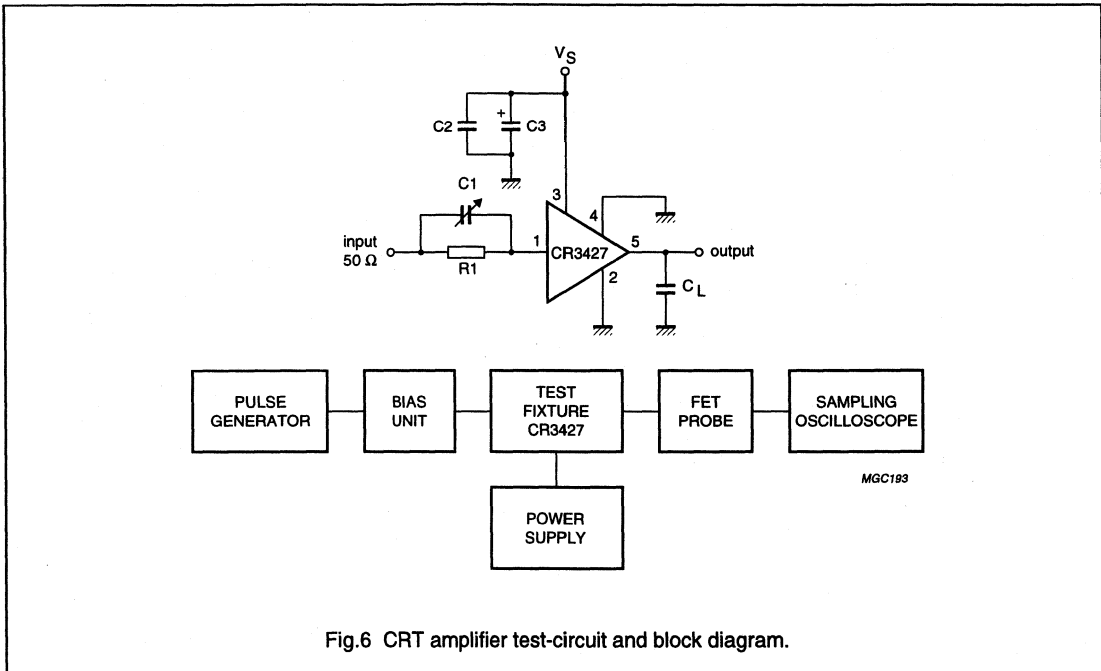

Fig.6 CRT amplifier test-circuit and block diagram.
3. Measured V_O/V_I (Fig.2) at input test-circuit (see Fig.6).
4. Measured V_O/V_I (Fig.3) at input module (see Fig.6).
Components used in test-circuit (see Fig.6)
Equipment used in test-circuit (see Fig.6)